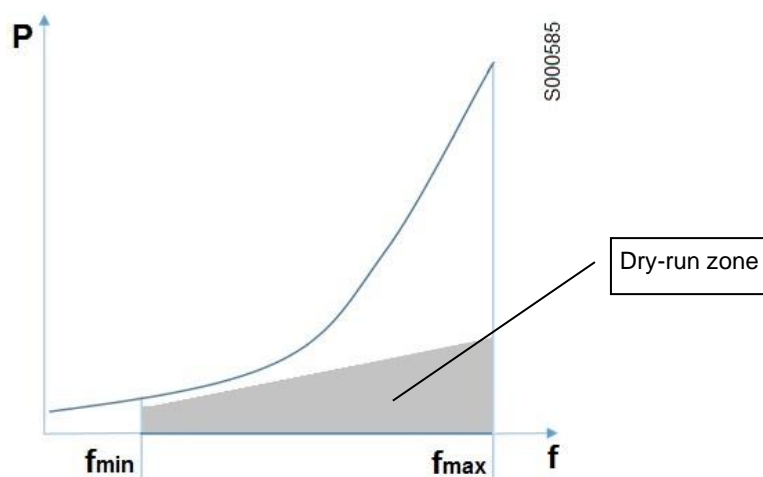

Figure 37: Dry-run zone
- Operation in Dry-run zone (see Figure 37)
Function	Speed for the first point defining the Dry-run function (fmin, see Figure 37). Expressed as a percentage of C015 : nominal motor frequency.
Function	Value of the measurement for the detection of the Dry-run function, selected in P710, at the speed of the first point P710a (fmin, see Figure 37).
Function	Speed for the second point defining the operating range of the Dry-run function (fmax, see Figure 37). Expressed as a percentage of C015 : nominal motor frequency.
Function	Value of the measurement for the detection of the Dry-run function, selected in P710, at the speed of the second point P710c (fmax, see Figure 37).